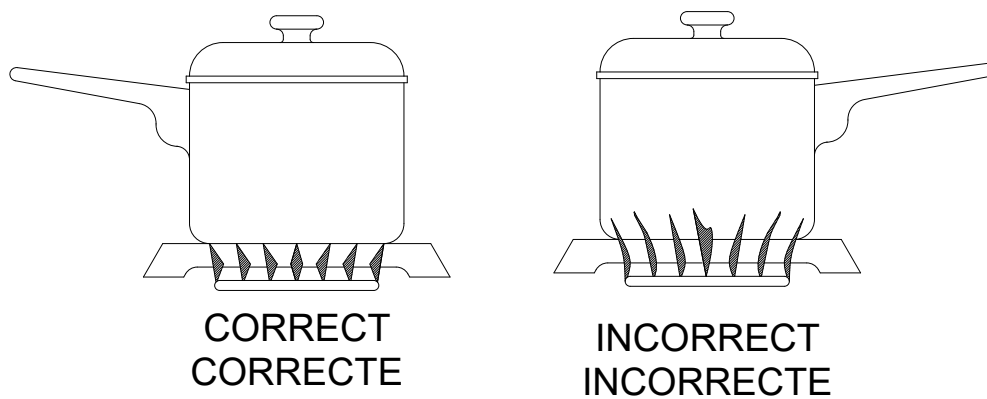

Figure 3
- a. Never extend the flame beyond the outer edge of the utensil. A higher flame simply wastes heat and energy. See Figure 3.